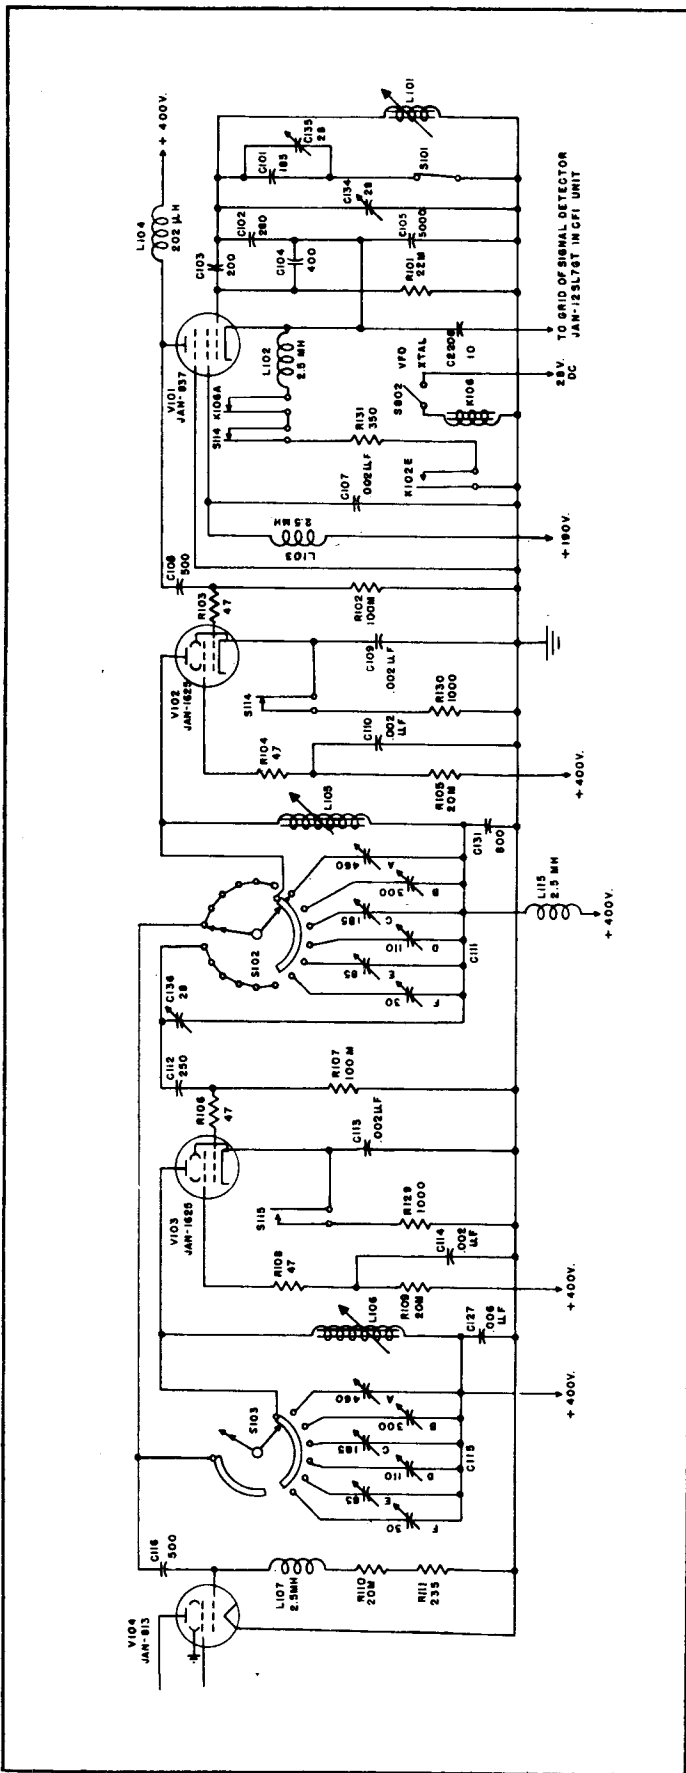

Figure 4-12. High Frequency R-F Circuits — VFO Operation — AN/ART-13A
(2) HIGH FREQUENCY R-F CIRCUITS.—The h-f oscillator employs a pentode Type JAN-837 tube, V101, in a variable frequency oscillator circuit. The oscillator operates within the frequency range 1000 kc to 1510 kc. This frequency range is covered in two bands, 1000 kc to 1200 kc, and 1200 kc to 1510 kc. The band of frequencies within which output is obtained, is dependent on the position of h-f oscillator range switch S101. Capacitors C101 and C135, (see fig. 4-12) are connected in the grid circuit of the h-f oscillator tube V101, by h-f oscillator range switch S101 which is operated by control A. Alternate positions of control A add or remove the padding capacitors C101 and C135. With control A in the 2.0-mc to 2.4-mc position h-f oscillator range switch S101 is closed, giving the maximum grid circuit capacitance